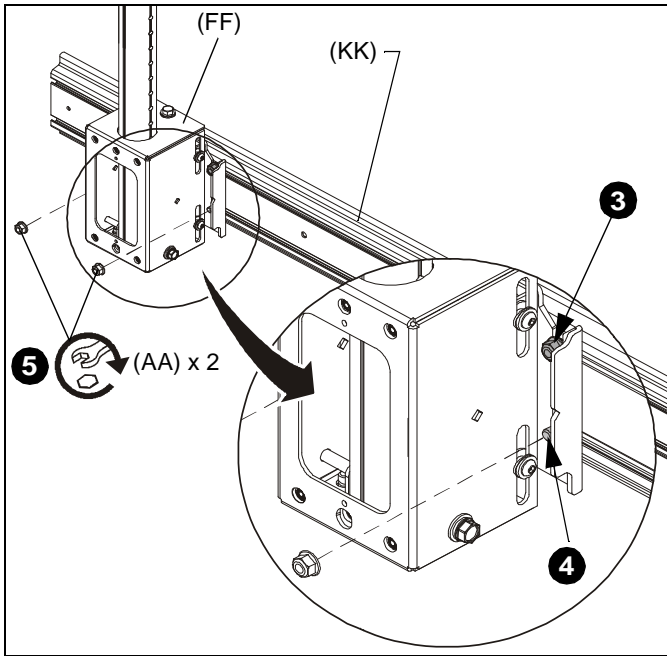

Figure 8
2. Partially fasten one 5/16" lock nut (AA) to each stud on upper T-slot studs.
3. Slide top T-slot studs (DD) with attached lock nuts (AA) down into top openings on array heads (FF). (See Figure 8)
4. Slide studs on lower T-slot studs (DD) into lower slots on array head (FF) while bringing mounting rail against array head.
5. Tighten array head to mounting rail by tightening lock nuts on upper T-slot studs and adding two 5/16" lock nuts (AA) to lower T-slot studs. (See Figure 8)